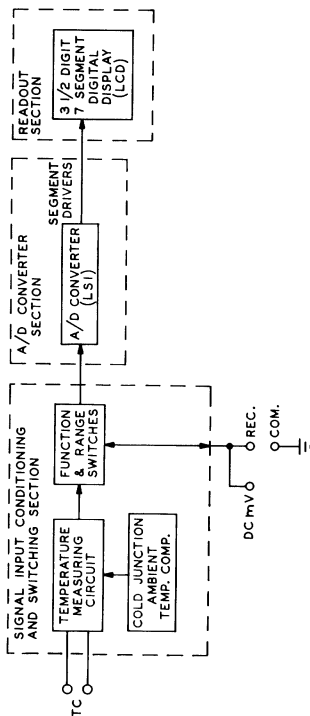

Figure 5-1. Basic System Diagram
5.1.1 The basic system block diagram for the 383 is shown in Figure 5-1.